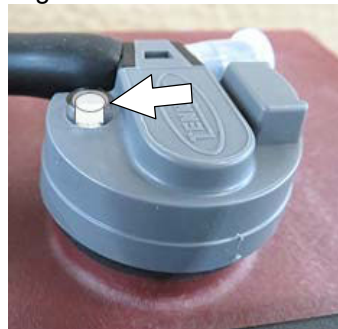

FIG. 3
2. After charging batteries, check the electrolyte level indicator on each battery cap. If any of the indicator floats are low, add water as described in the next step (Figure 3).